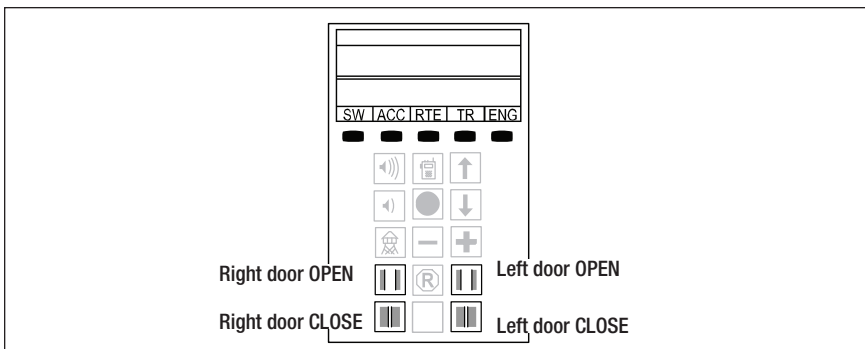

Figure 2. OPEN and CLOSE icon on the CAB-2
**E**ach car features a lighted interior and opening doors. In the LEGACY environment, the doors are opened and closed using the CAB-2. Press the doors OPEN and CLOSE icon on the CAB-2 after loading the Subway module. See Figure 2.